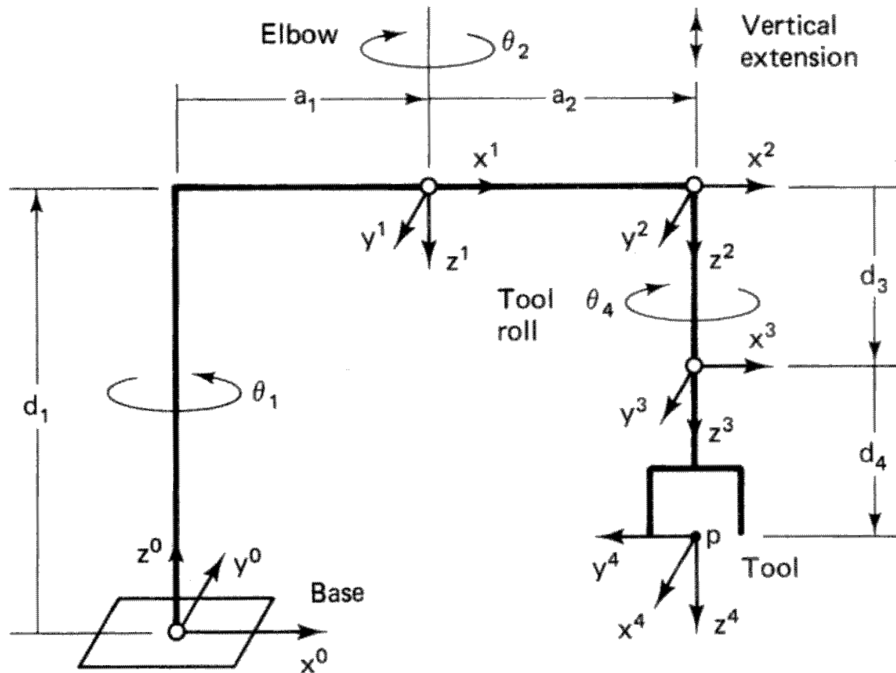

Figure 5: SCARA manipulator (Adept One).
Task 2.5 (7 points) DH-Parameter SCARA: An important type of manipulator is the SCARA type, a manipulator with four vertically aligned joint axes. Figure 5 shows the joint coordinate frames of such a manipulator (Adept One).
2.5.1 (2 points): Verify the manipulator shown in Figure 5 according to the Denavit-Hartenberg convention. (For each rule and requirement of the DH convention, explain where it has been used and why.)